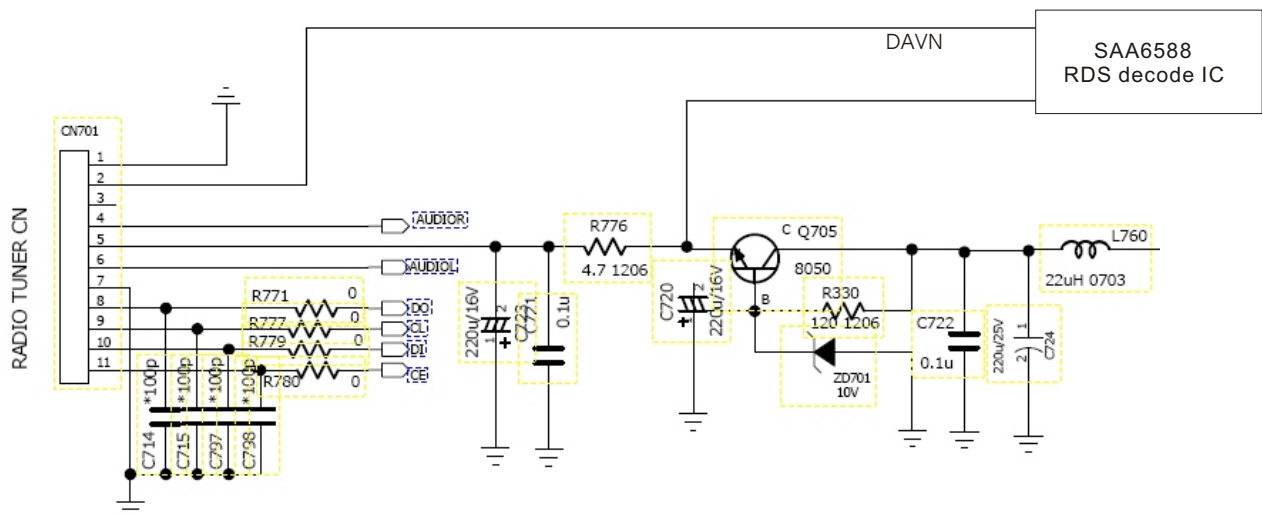

Figure 3.2.3.2 RADIO Tuner jack and voltage stabilizing circuit diagram
(1) Tuner jack and voltage stabilizing circuit is shown in the figure 3.2.3.2: